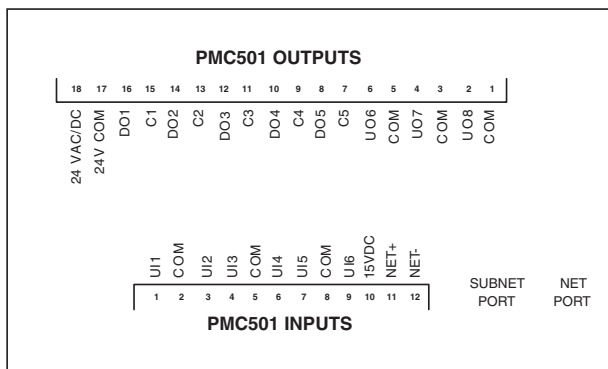

Figure 6. PMC501 connections
- These controllers are all built on a similar platform, but have different numbers of inputs and outputs. For more information on the specific layout and functionality of each controller, please refer to Figures 6, 7, 8 and to Section 2.3.